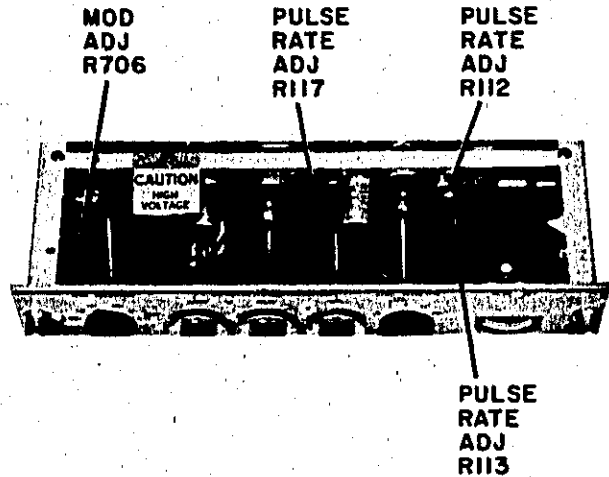

Figure 5-10. Location of Klystron and Modulator Adjustments (620B)
d. Set MOD. SELECTOR to CW and measure klystron beam current with 428B Clip-on DC Milliammeter. Adjust potentiometer R706 (Figure 5-10) for 22-mA klystron beam current.